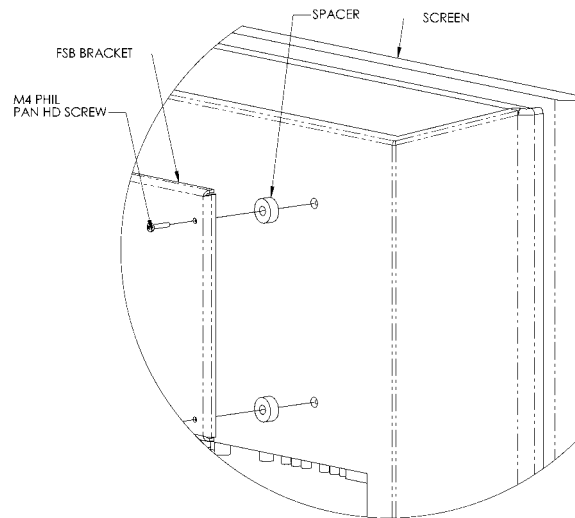

Figure 3
- Assemble (4) M4 X 20mm Phil Pan Hd screws with nylon spacers provided to mounting holes on back of screen, as shown in Figure 3.